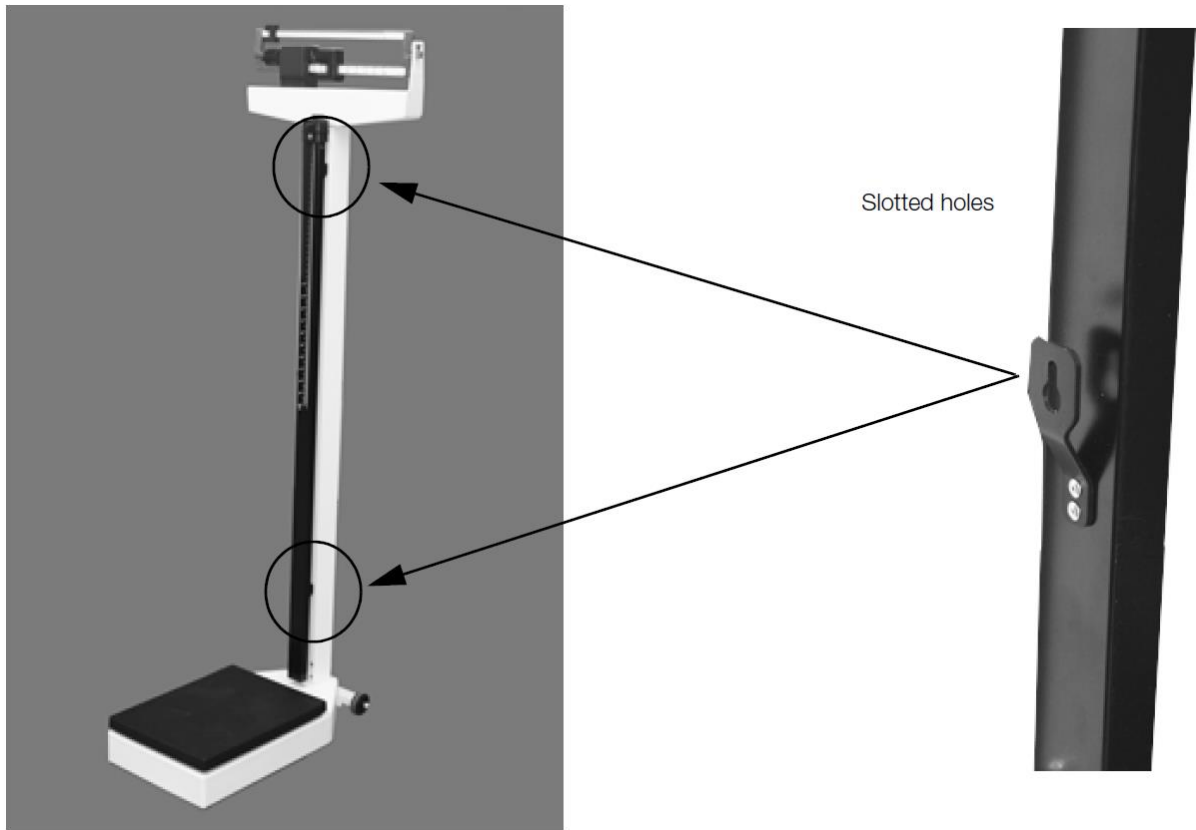

Figure 7. Attach the Slotted Screw Location onto the Pillar Bolt Location
1. Position the slotted holes on the back of the height rod onto the two bolts on the front of the pillar as shown in Figure 7.